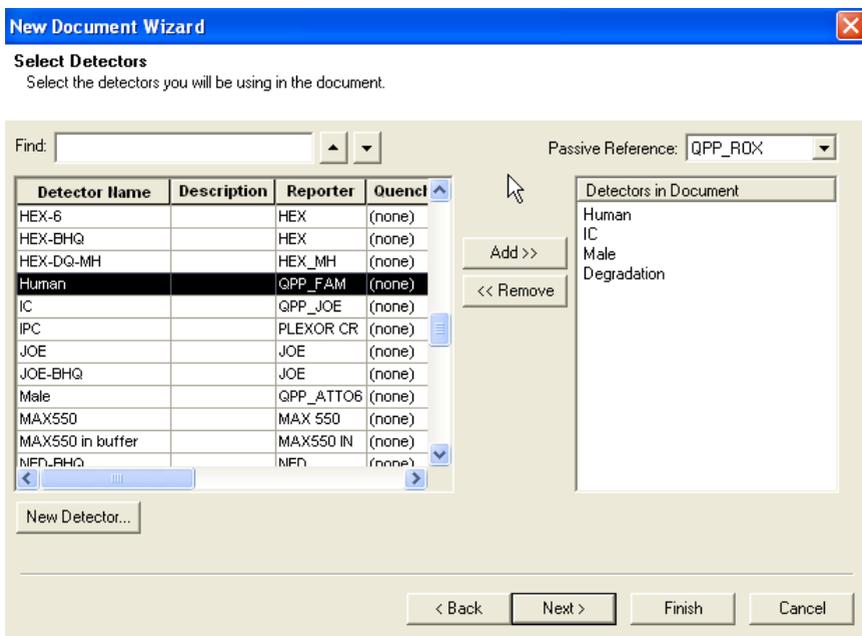

Figure 35. Selecting the detectors.
9. Add the detectors QPP_FAM, QPP_JOE, QPP_ATTO550, and QPP_ATTO647N to the document and set QPP_ROX as passive reference. Click **Next** to continue (Figure 35, next page).